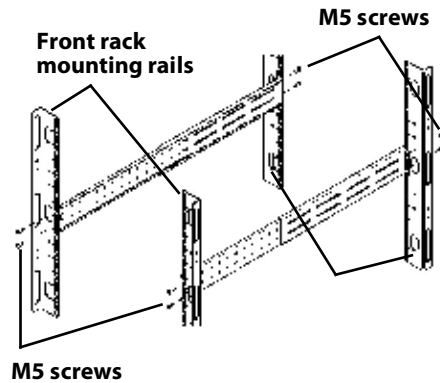

Figure 10: Installing the rear member and front member of each bracket assembly
- Install the rear member of each bracket assembly into the rack enclosure with two M5 screws provided in this kit (see Figure 10). The return flanges on the bracket assembly fit to the inside of the rack mounting rails. Insert screws loosely (finger-tight) into the top and bottom holes of the return flange on the rear member.